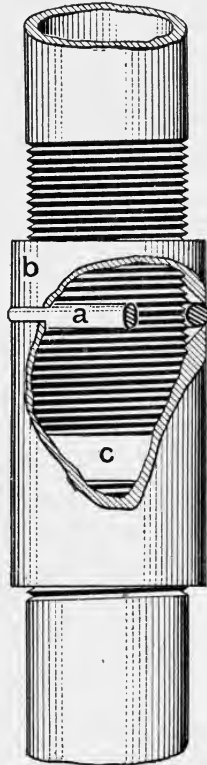

Fig. 120
**Running-Thread Connections.**—Connections are often made between pipes in drainage work by means of a running thread and coupling, as shown in Fig. 120. This is not so reliable a connection as a flange joint, but it can sometimes be used more conveniently than flange joints or other connections, and when a metal ring gasket, *a*, is used in the joint between the coupling and the follower, *b*, a perfectly tight and permanent joint is secured. To make a running-thread connection, the last piece of pipe screwed in must be cut short enough so it will slip in between the sections to be